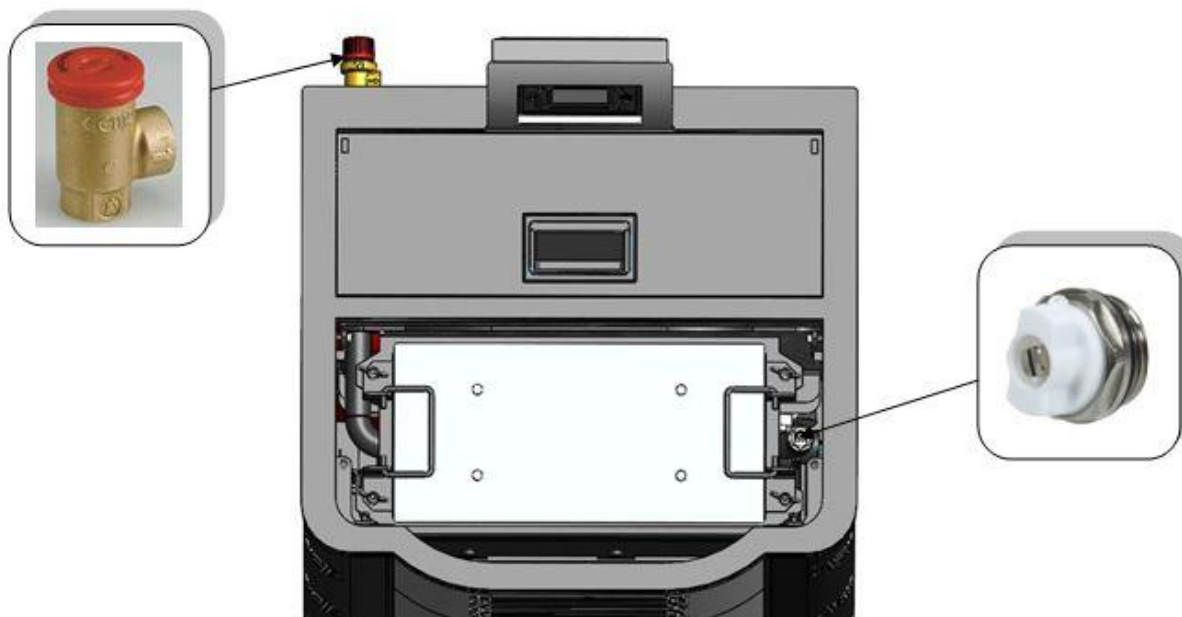

Figure 15. Display of vent and safety valve on top of the pellet Boiler Heating Stove
**Note:** When filling the Hydraulic system pay attention to security elements shown in Figures 15.